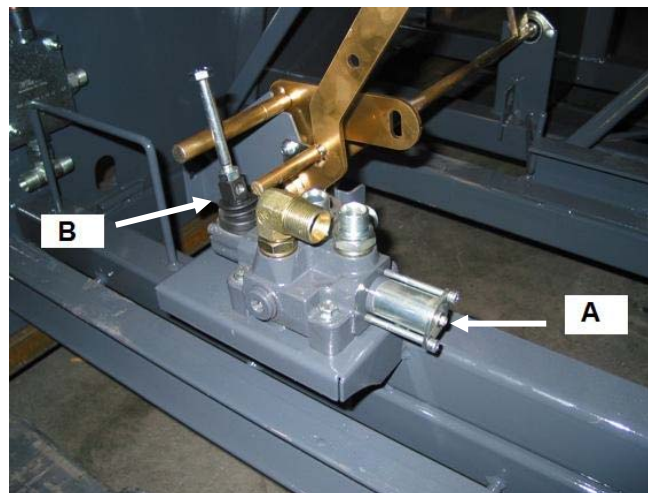

Fig. 26
9.15 Servicing the main valve, Fig. 26
Lubricating the detent end of the valve, Fig. 26, point A
Lubricating the spool shifter, Fig. 26, point B